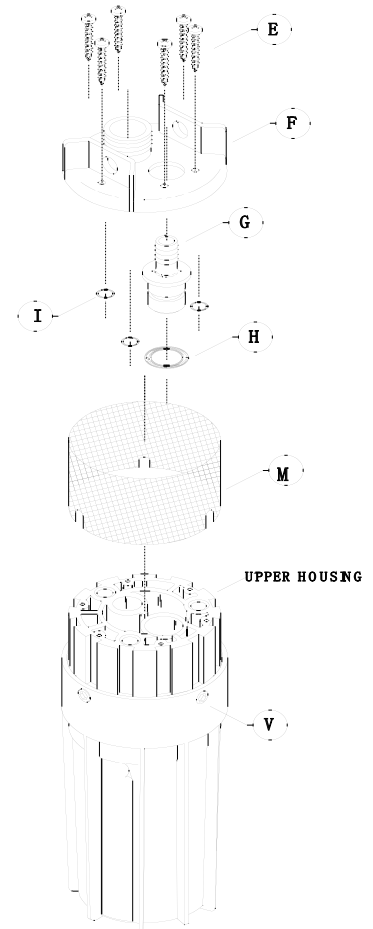

FIGURE 15
11) Install the Filter Screen (Part M) (Fig. 15).
12) Install the Outlet Fitting (Part G) (Fig. 15).
13) Install the Lift Plate (Part F) with three the O-Rings (Part I) on the posts (Fig. 15).